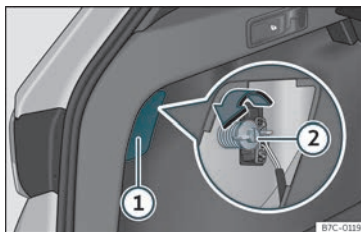

Fig. 49 Luggage compartment: access to the bolt securing the tail light unit.
- Remove the lid, levering it with the flat side of a screwdriver into the recess»» Fig. 49 ①.
- Unscrew the light securing bolt by hand or using a screwdriver»» Fig. 49 ②.